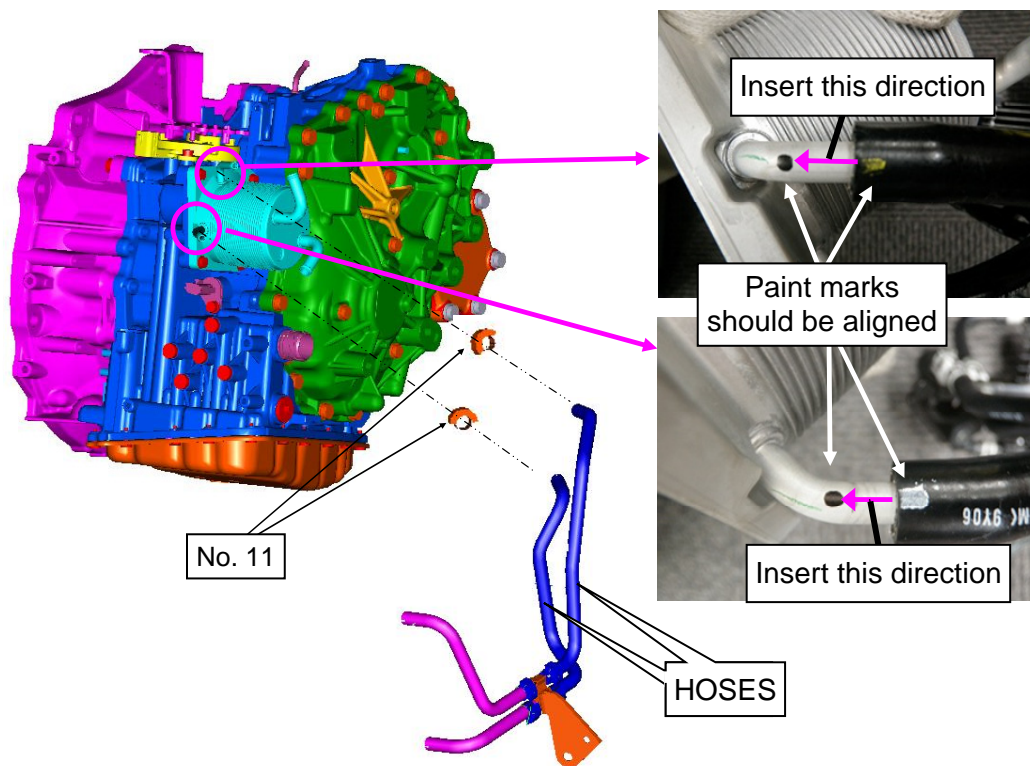

Figure 25
3. Install the HOSE (Figure 25, shown in blue) to the CVT Fluid Cooler.
- Use 2 new CLAMP-HOSE (spring clamps: Figure 25, No 11).